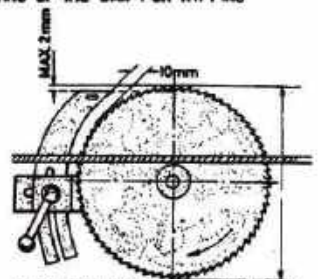

Fig.585. SETTING OF THE RIVING KNIFE
10. Whenever possible, especially in ripping, use the riving knife which is fixed 10 mm behind the saw blade and in height equal with the gullets of the saw blade. Fig.585.